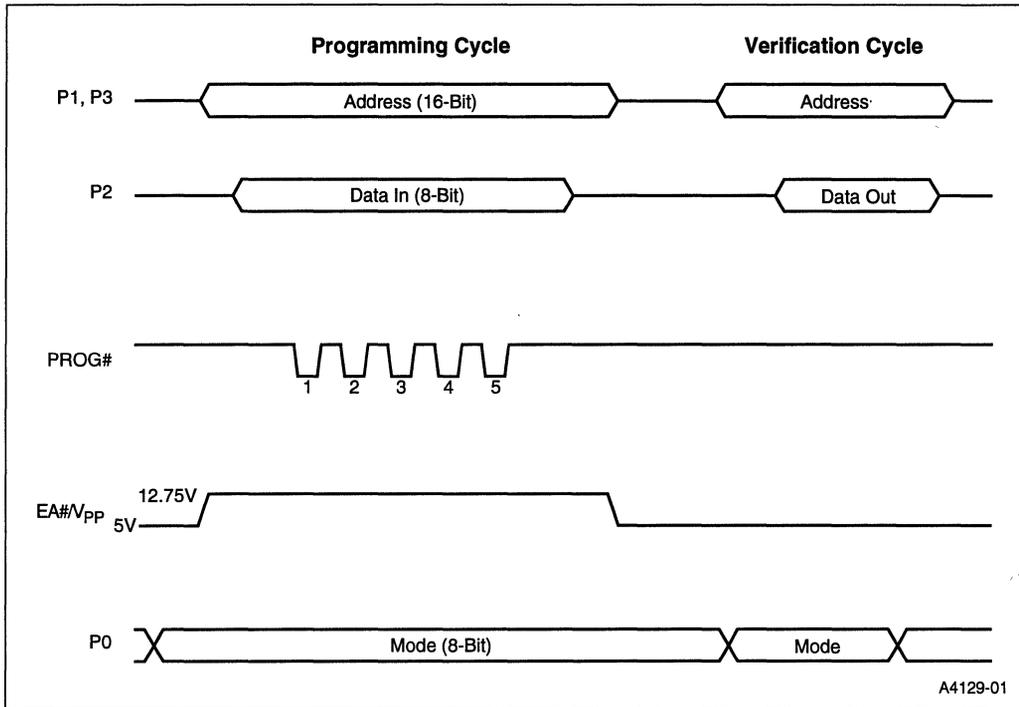

Figure 13-2. OTPROM Programming Waveforms
- To program, raise V_{pp} to 12.75 V and pulse the PROG# pin. See Figure 13-2 for waveforms.
To perform the write operation, raise V_{pp} to 12.75 V and pulse the PROG# pin per Table 13-1. Then return V_{pp} to 5 V. Waveforms are shown in Figure 13-2.
Verification is performed in a similar manner but without increasing V_{pp} and without pulsing PROG#. Figure 13-2 shows the OTPROM programming and verifying waveforms. For waveform timing information, refer to Figure 13-5 and Table 13-5 at the end of this section.